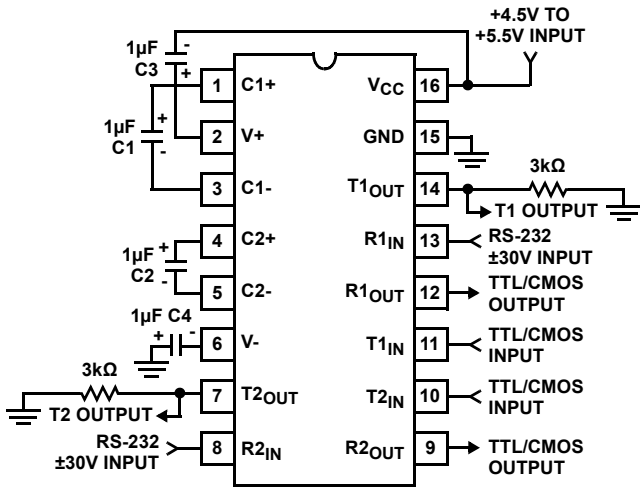

FIGURE 2. GENERAL TEST CIRCUIT
**Electrical Specifications** Test Conditions: VCC = +5V ±10%, TA = Operating Temperature Range. Test Circuit as in Figure 2. Unless otherwise specified.
The voltage quadrupler contains two charge pumps which use two phases of an internally generated clock to generate +10V and -10V. The nominal clock frequency is 16kHz. During phase one of the clock, capacitor C1 is charged to VCC. During phase two, the voltage on C1 is added to VCC, producing a signal across C2 equal to twice VCC. At the same time, C3 is also charged to 2VCC, and then during phase one, it is inverted with respect to ground to produce a signal across C4 equal to -2VCC. The voltage converter accepts input voltages up to 5.5V. The output impedance of the doubler (V+) is approximately 200Ω, and the output impedance of the inverter (V-) is approximately 450Ω. Typical graphs are presented which show the voltage converters output vs input voltage and output voltages vs load characteristics. The test circuit (Figure 2) uses 1μF capacitors for C1 to C4, however, the value is not critical. Increasing the values of C1 and C2 will lower the output impedance of the voltage doubler and inverter, and increasing the values of the reservoir capacitors, C3 and C4, lowers the ripple on the V+ and V- supplies.